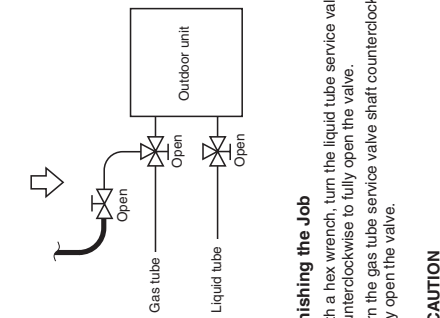

Fig. 7-2
- If the additional refrigerant charge amount cannot be charged at once, charge the remaining refrigerant in liquid form by using the gas tube service valve with the system in Cooling mode at the time of test run. (Fig. 7-2)